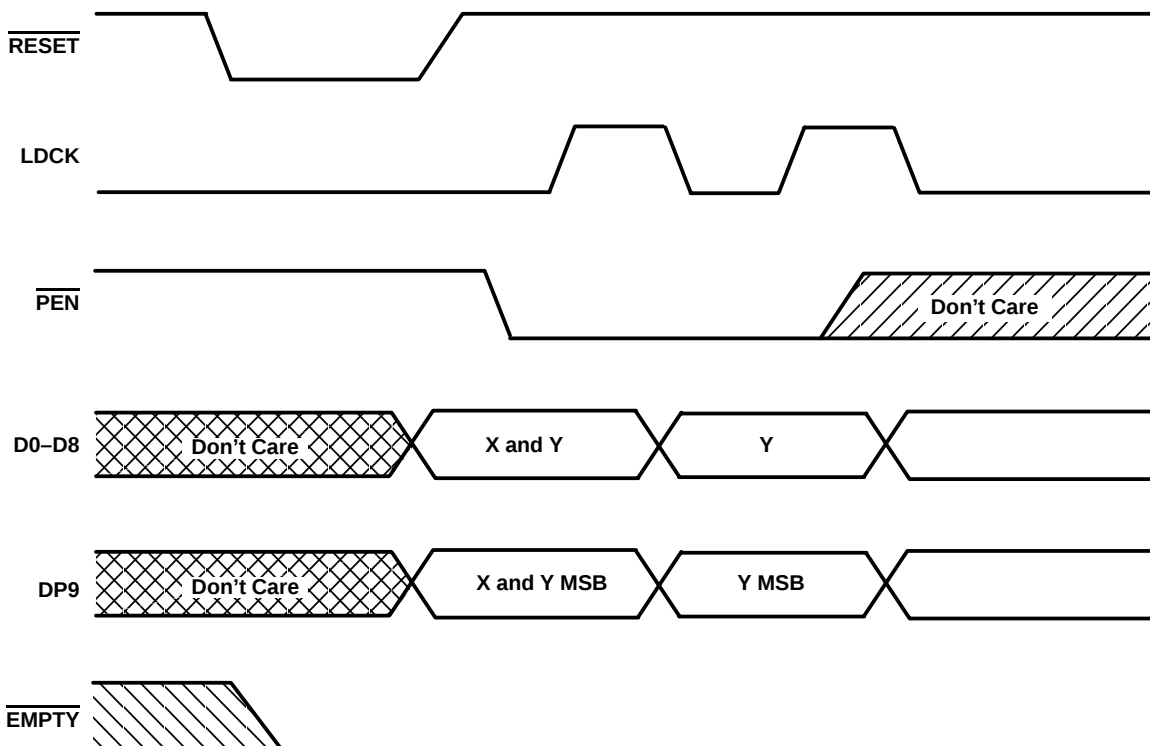

Figure 1. Programming X and Y Separately
To program the offset values, program enable ($\overline{PEN}$) can be brought low after reset only when LDCK is low. On the following low-to-high transition of LDCK, the binary value on D0–D8 and DP9 is stored as the almost-empty offset value (X) and the almost-full offset value (Y). Holding $\overline{PEN}$ low for another low-to-high transition of LDCK reprograms Y to the binary value on D0–D8 and DP9 at the time of the second LDCK low-to-high transition. Writes to the FIFO memory are disabled while the offsets are programmed. A maximum value of 1023 can be programmed for either X or Y (see Figure 1). To use the default values of $X = Y = 256$, $\overline{PEN}$ must be held high.
timing requirements over recommended operating conditions (unless otherwise noted) (see Figures 1 through 3)